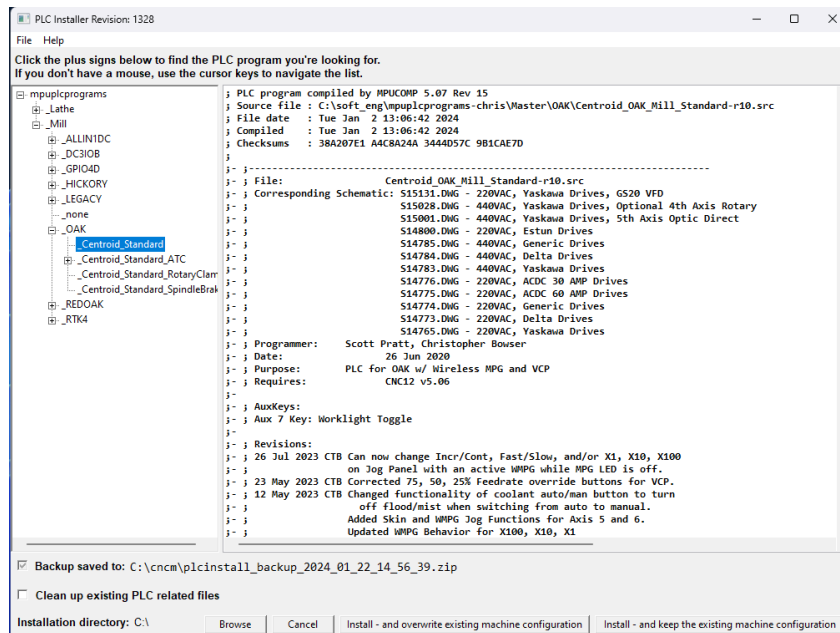

Figure 3.2.11
13. **Installing a PLC program:** After the CNC12 software has been installed, the installer will prompt you to install a PLC program, select “Yes”. This will open the PLC installer. Click on the “+” signs next to Mill and OAK. Click on “_Centroid_Standard”, then click either “Install” option as shown in Figure 3.2.11.